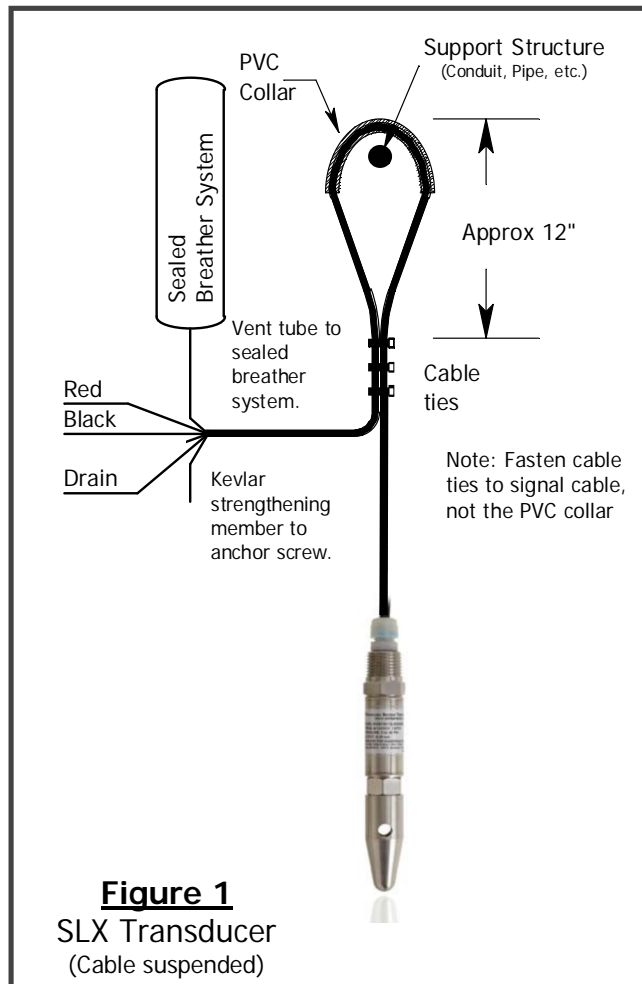

Figure 1
- 4) Secure the transducer's cable over the support structure by applying the supplied cable ties¹ separated by approximately 4 inches (Ref Fig 1). Use the cable ties to cinch the cable to itself. Do not cinch the cable to the collar or the collar to the collar. Periodically inspect the tie wraps to ensure their operation. Replace worn tie wraps as necessary.